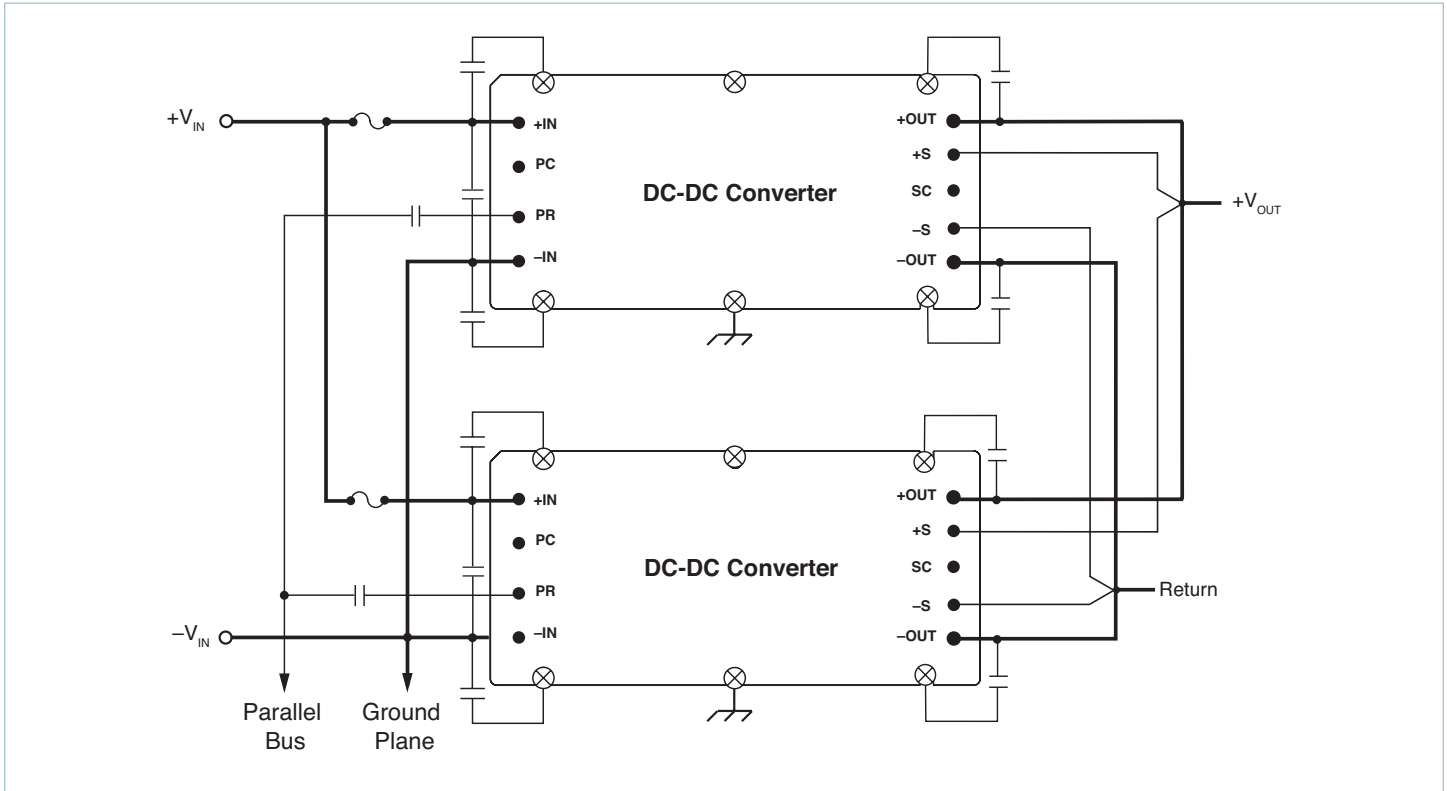

Figure 5.2 — Synchronous power architecture simplifies current-sharing control and enhances fault tolerance
**Driver / Booster Arrays:** Most Vicor converters can employ the driver / booster array for increased power. (Figure 5.2)
The converters use this pulse as a current-sharing signal for power expansion and fault-tolerant applications. The pulsed signal on the parallel bus simplifies current-sharing control by synchronizing the high-frequency switching of each converter. The parallel pin is a bi-directional port on each module used to transmit and receive information between modules. If the lead module relinquishes control, another module in the array will transparently take command with little or no perturbation of the output bus. A pulsed signal gives designers the option to use capacitors (Figure 5.2) or transformers between parallel pins, providing DC-blocked coupling. Such coupling prevents certain failure modes internal to a single module from affecting the other modules in the array, thus providing an increased level of fault tolerance.